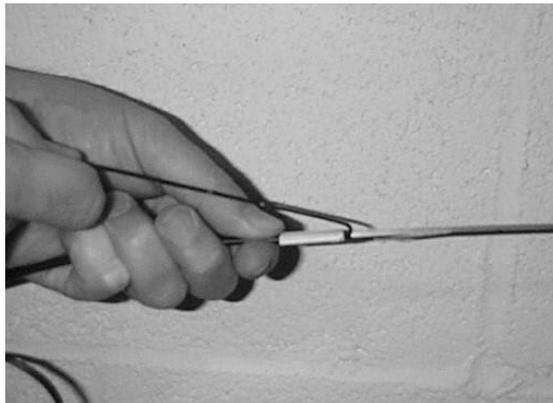

Figure 6 – Removing the outer cable jacket.
4.6 From the cable end, peel both sections of the cable jacket (top and bottom) back to the tape mark (Figure 6). Cut the peeled sections to separate them from the cable.